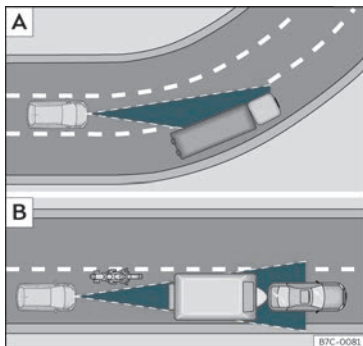

Fig. 162 [A] Vehicle on a bend. [B] Motorcyclist ahead, out of range of the radar sensor.
The ACC may not detect the vehicle in front on a curve, or may regulate the distance from vehicles in other lanes >>> **Fig. 162** [A].
- Vehicles that are not aligned while driving or that are outside the sensor's detection area, such as motorcycles >>> **Fig. 162** [B]